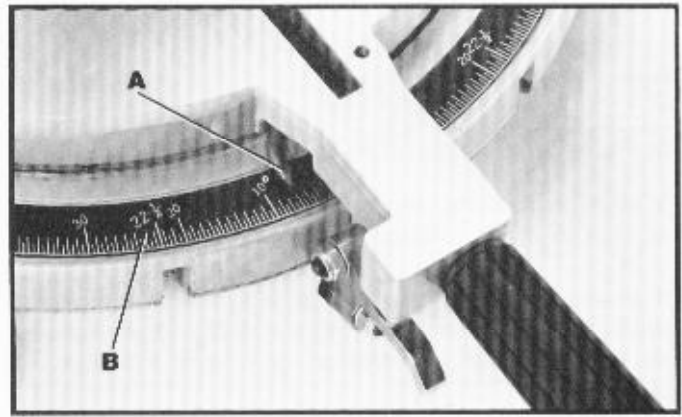

Fig. 18
A pointer (A) Fig. 18, is supplied which indicates the actual angle of cut. Each line on the scale (B) represents 1/2 degree. In effect, when the pointer is moved from one line to the next on the scale, the angle of cut is changed by 1/2 degree.